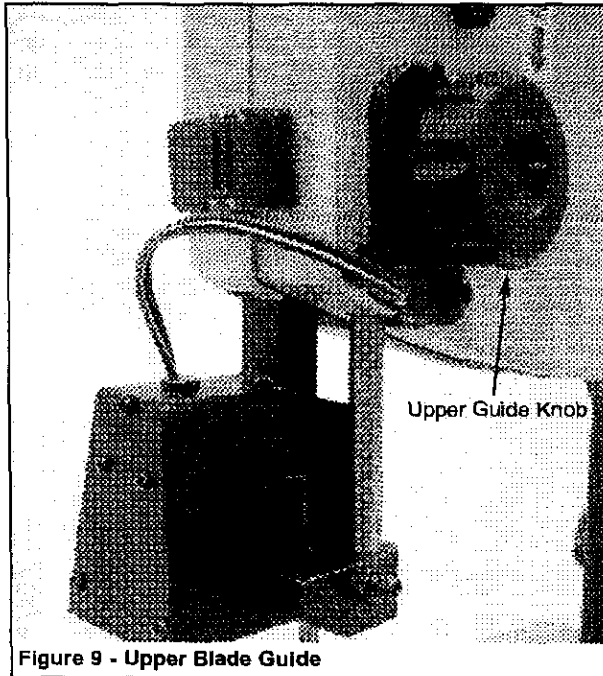

Figure 9 - Upper Blade Guide
- Adjust the height of upper guide to clear the workpiece by $\frac{1}{4}$ ". Loosen upper guide knob (see Figure 9) and adjust height of upper guide until it clears workpiece by $\frac{1}{4}$ ". Tighten upper guide knob.